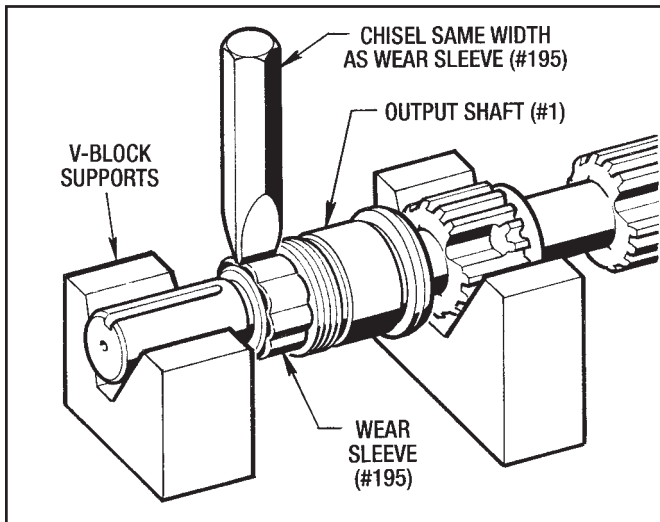

Figure 7.6 - Removing Wear Sleeve (#195)
4. Remove the Wear Sleeve (#195) with the following procedure shown in Figure 7.6.